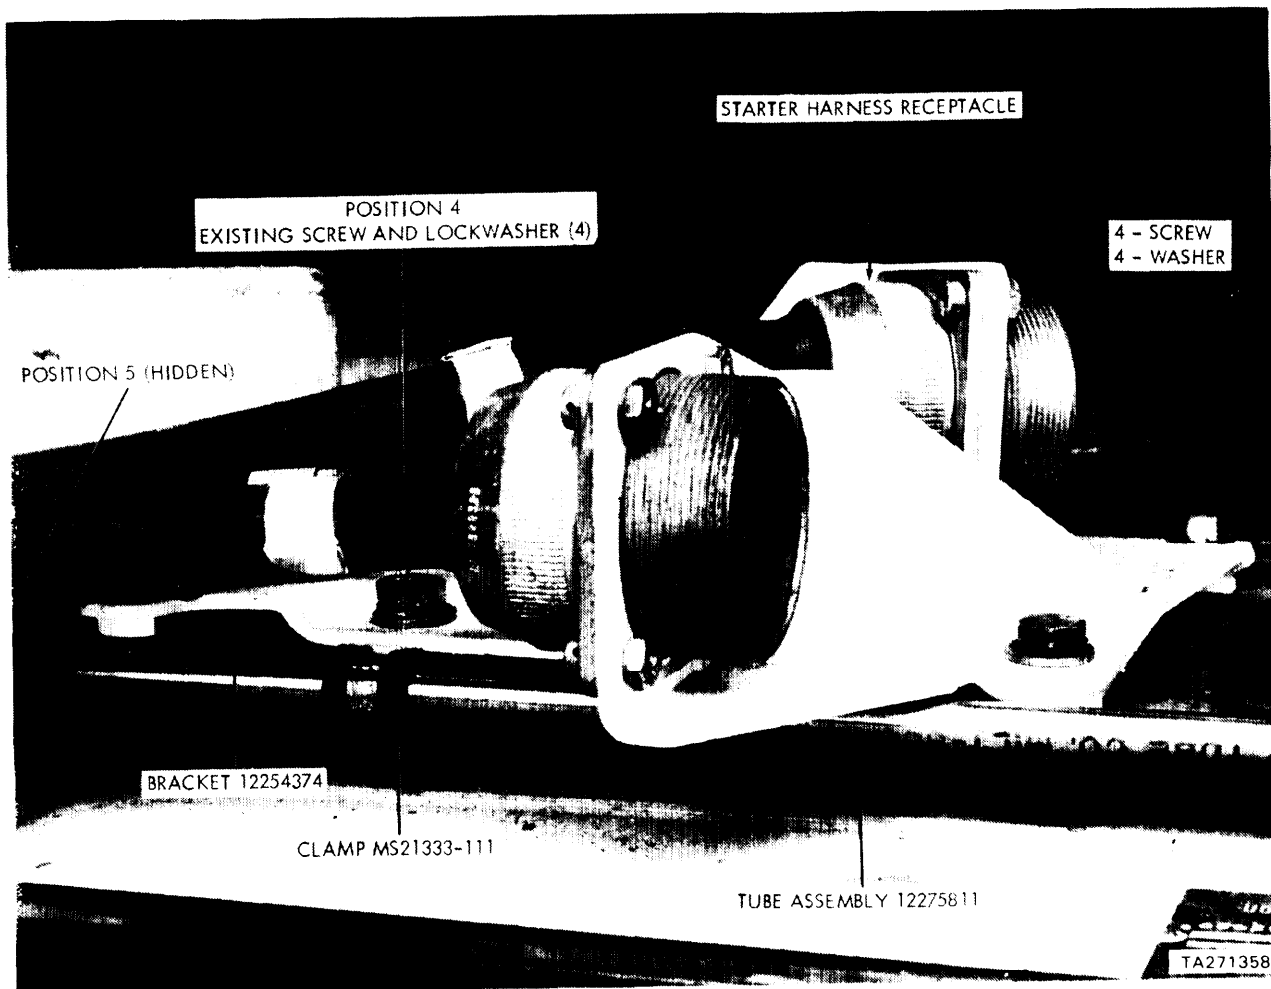

Figure 22. Installation of Tube Clamp at Position 4
(14) Replace bracket 12254374 onto engine access cover and secure with four of the screws and washer removed in step 12, (figure 22). Do not install screw and washer at position 5 at this time, (figures 18 and 22).
(15) Remove four screws, nuts, and lockwashers securing positive starter harness receptacle to bracket 12254374 (figure 22).